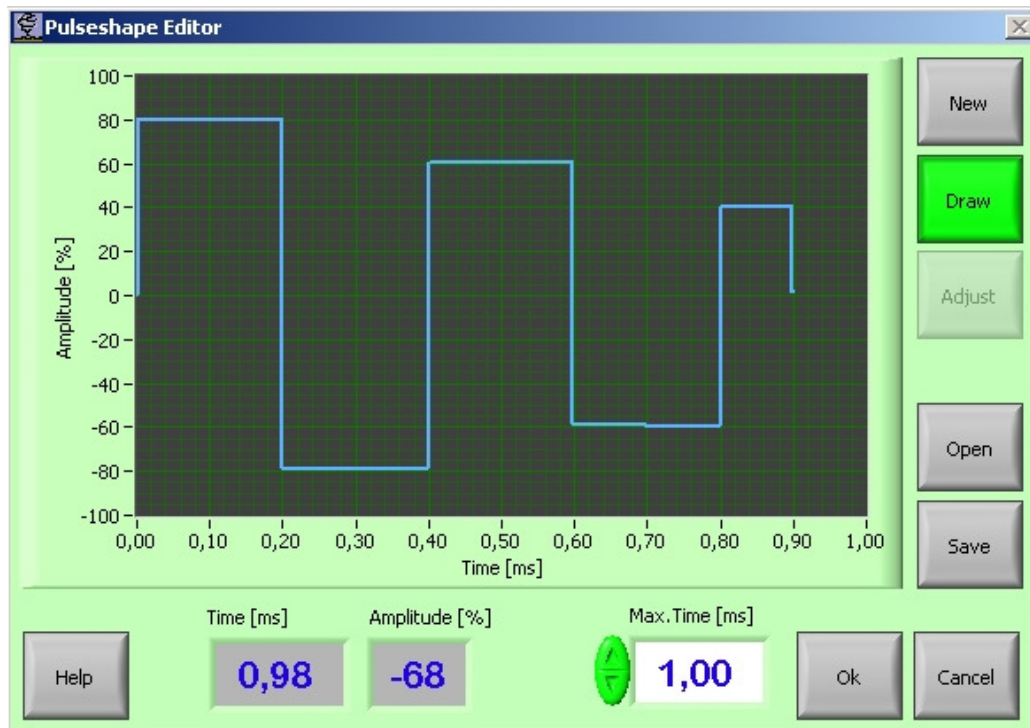

Figure 19: Drawn pulse shape
- Start to draw using the left mouse key and moving the mouse over the black area of the pulse graph. The values for amplitude and time at the mouse position can be checked with the indicators for „Time [ms]“ and „Amplitude [%]“. Fix each end point of your desired pulse shape with a mouse click. Move the mouse cursor to the right only, drawing to the left is not possible. You can always extend the total pulse width by changing the value in the „Max. Time [ms]“ control. After clicking the last point (Figure 19) the pulse shape can be stored together with a name, helping to identify it, using the <Save> button. This key is disabled, if no pulse shape exists in the pulse graph area.